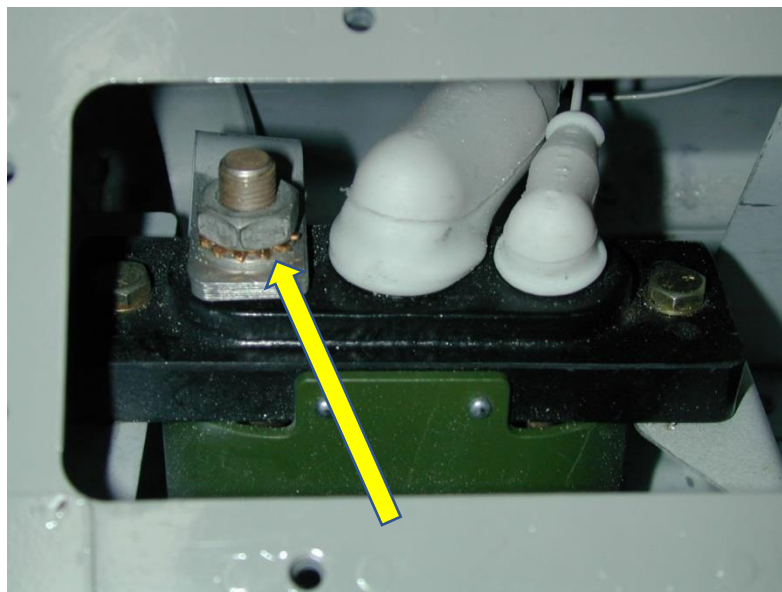

Figure 14 – Termination point for circuit PE5A18N
- 1.5.12 Connect circuit denoted PE5A18N to the ground power earth point per Figure 14.